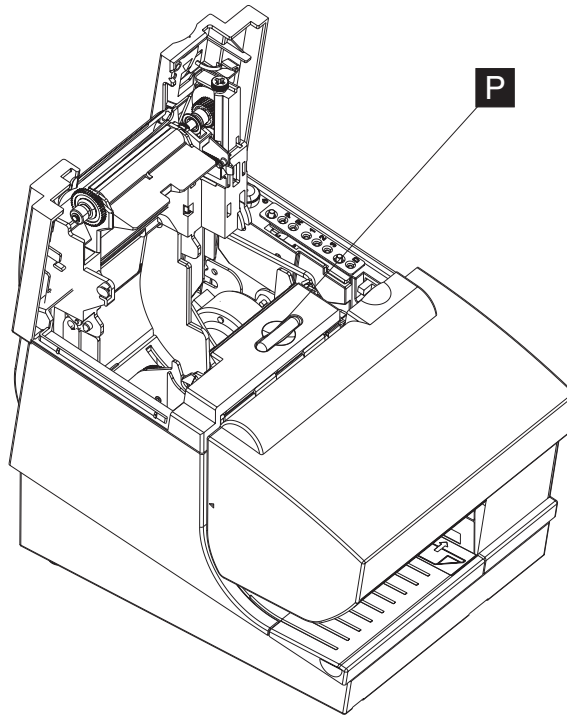

Figure 8. Opening the paper door
1. Press and release the blue release button (**P** in Figure 8) to release the paper door.